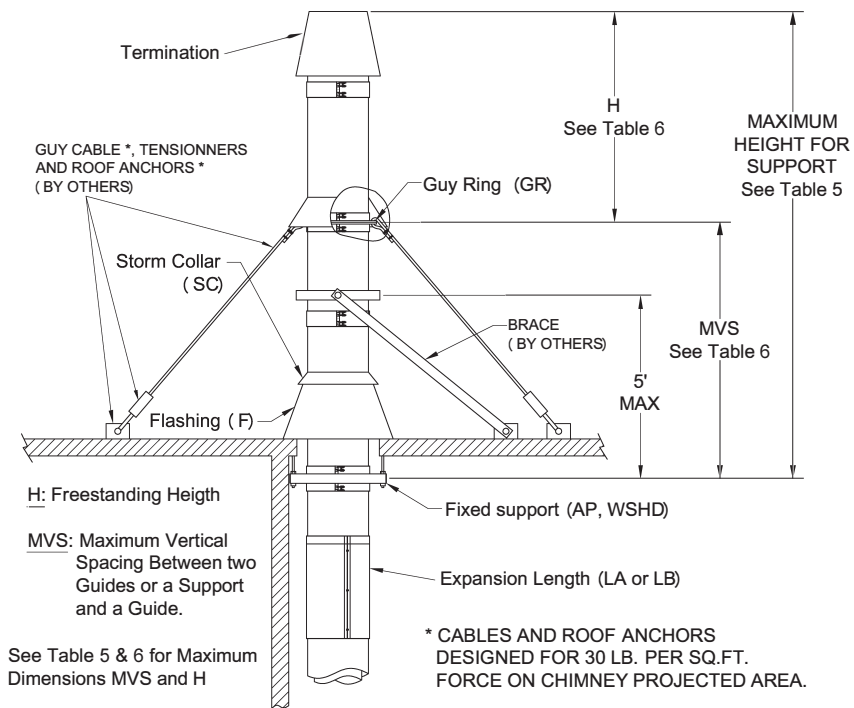

Figure 65 - Height with rigid bracing or guying option
1. Proper guying and bracing is essential for part of the Chimney that extends above the roof or parapet wall. The chimney at this point is subject to wind conditions and needs special attention for proper stabilization. See **Figure 65**.
2. If the chimney above the roof does not exceed dimension H in **Table 6**, no special guying or bracing is required. However, to protect the flashing from lateral movement, a guide must be installed at the roof level. See **Figure 65**.